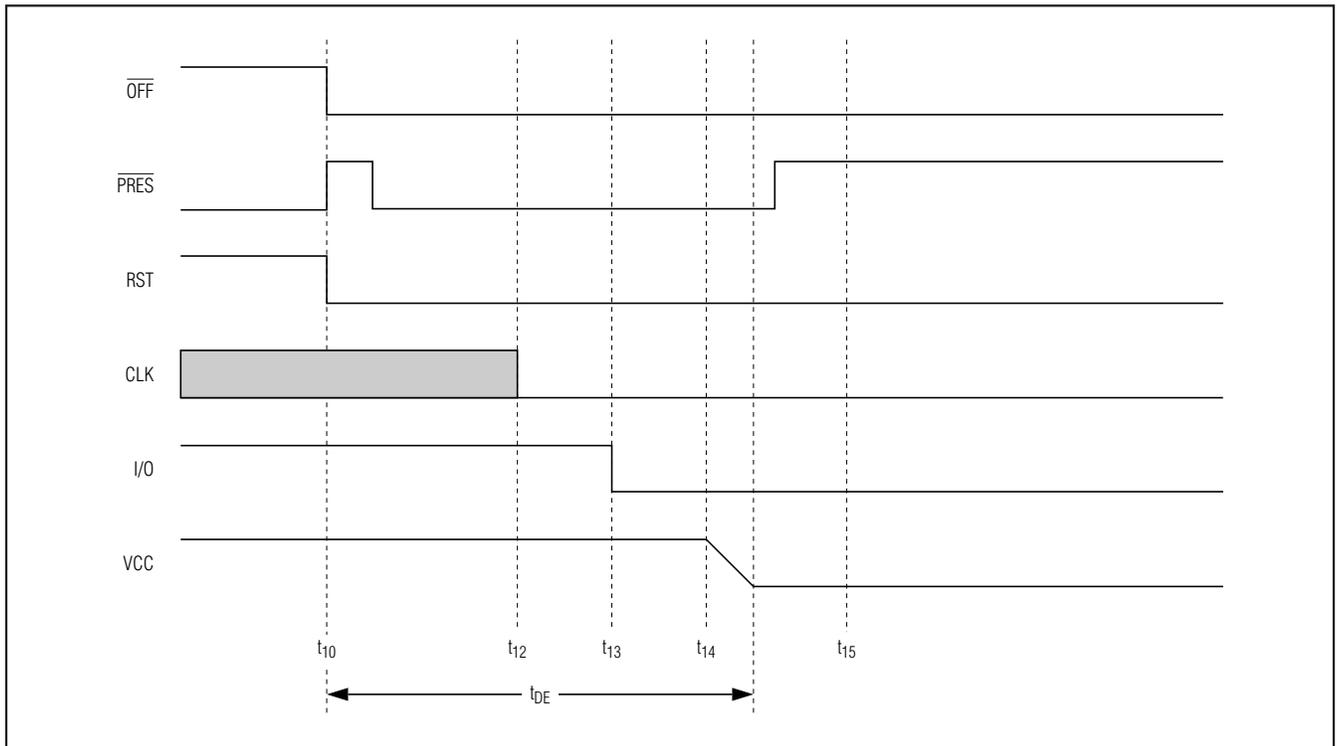

Figure 7. Emergency Deactivation Sequence (Card Extraction)
- **CMDVCC Low Within a Card Session.** Output  $\overline{\text{OFF}}$  goes low when a fault condition is detected, and an emergency deactivation is performed automatically (Figure 7). When the system controller resets  $\overline{\text{CMDVCC}}$  to high, it may sense the  $\overline{\text{OFF}}$  level again after completing the deactivation sequence. This distinguishes between a card extraction and a hardware problem ( $\overline{\text{OFF}}$  goes high again if a card is present). Depending on the connector's card-present switch (normally closed or normally open) and the mechanical characteristics of the switch, bouncing can occur on the PRES signals at card insertion or withdrawal.